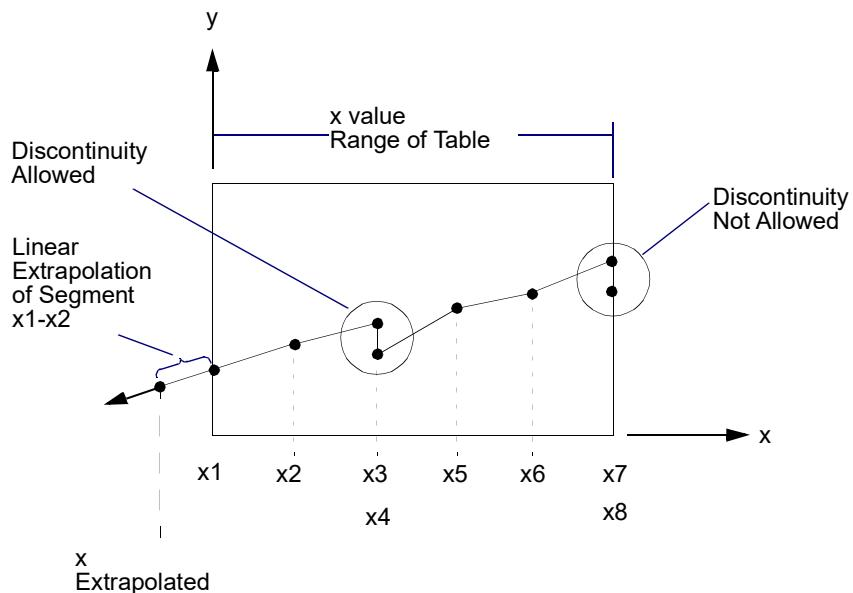

Figure 9-166 Example of Table Extrapolation and Discontinuity
2. Discontinuities may be specified between any two points except the two starting points or two end points. For example, in Figure 9-166 discontinuities are allowed only between points x2 through x7. Also, if y is evaluated at a discontinuity, then the average value of y is used. In Figure 9-166, the value of y at x = x3 is $y = (y_3 + y_4)/2$.
where x is input to the table and y is returned. The table look-up is performed using linear interpolation within the table and linear extrapolation outside the table using the two starting or end points. See Figure 9-166. No warning messages are issued if table data is input incorrectly.